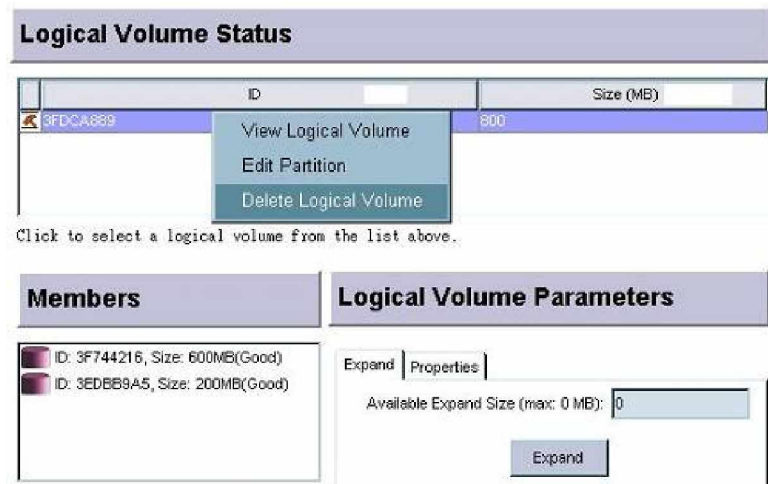

Figure 9-18: Displaying Logical Volume Edit Mode Menu
Step 1. Select the configured volume you wish to remove with a single mouse-click. **Right-click** the adjacent area to display a command menu. As shown in *Figure 9-18*, all the LVs that have been created will appear below the “**Logical Volume Status**” panel.